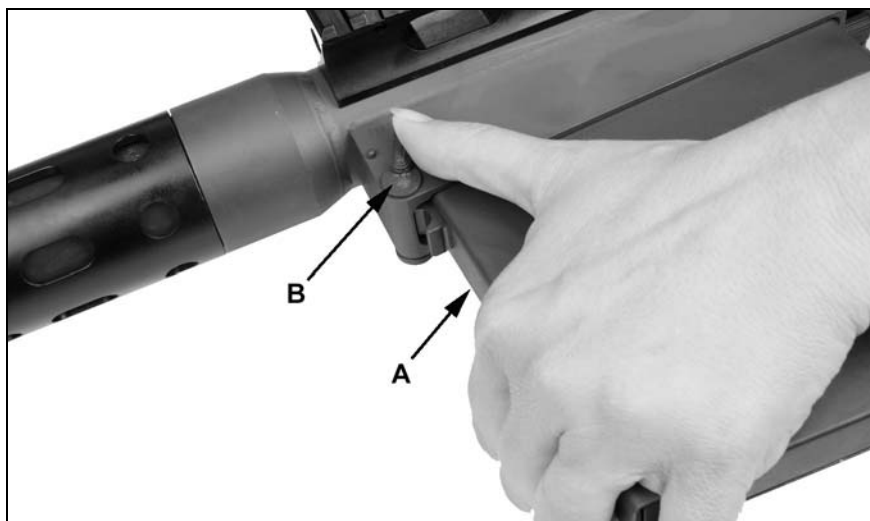

Figure 22
- 1. Remove Magazine (If Equipped)** Grasp the firearm while keeping your finger off the trigger. Place your left hand on the forward end of the magazine (A) as illustrated. Press the magazine release button (B) forward to OPEN and pull the forward end of the magazine out to remove. See figure 22.